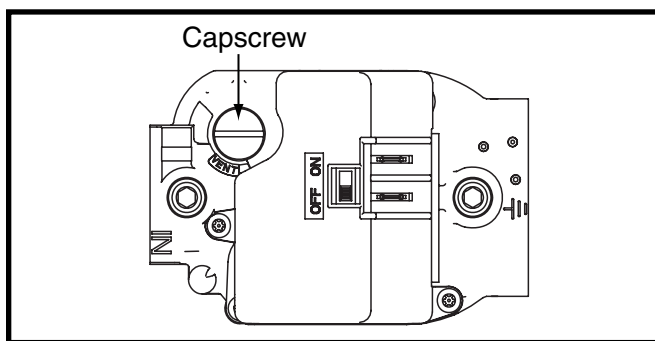

Figure 15. Regulator Capscrew
- Remove the regulator capscrew from the INLET side of the regulator. See (Figure 15).